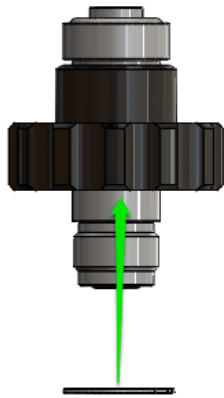

Fig. 31
- e. Using the snap ring pliers install the snap ring 01-0031-00 onto the DIN Nipple 6750 (Fig 31). Ensure the snap ring is seated into the groove in the nipple.